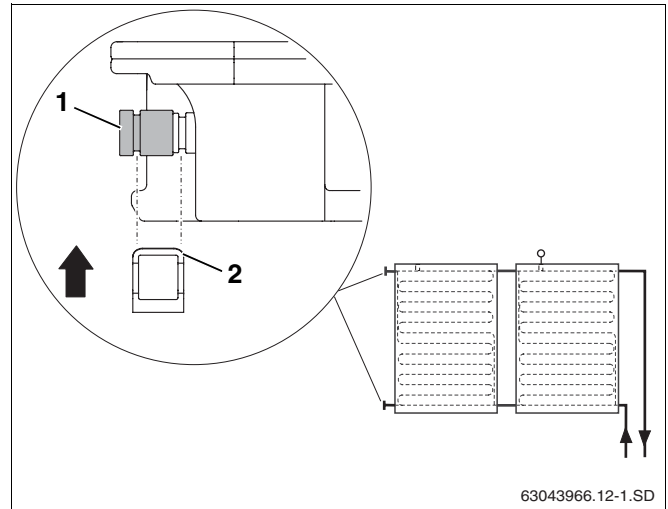

Fig. 39 Securing end cap with bracket
- ▶ Push end cap with the O-rings (Fig. 39, **Item 1**) onto the collector connection.
- ▶ Push bracket (Fig. 39, **Item 2**) over the end cap and collector connection to secure the connection.